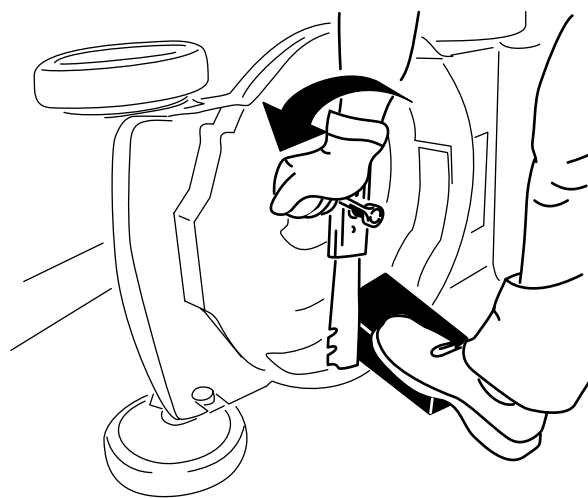

Figure 20
2. Use a block of wood to hold the blade steady (Figure 20).
3. Remove the blade, saving all mounting hardware (Figure 20).